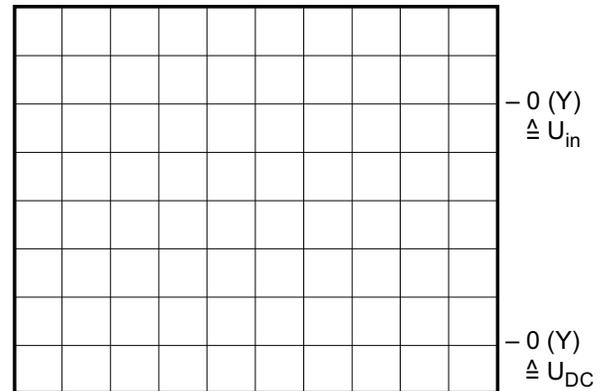

Fig. 1.4.2.3
- Plot the curve of the input voltage  $U_{in}$  and of the DC voltage  $U_{DC}$ , which results using the smoothing capacitor 10  $\mu$ F on the grid of Fig. 1.4.2.3.